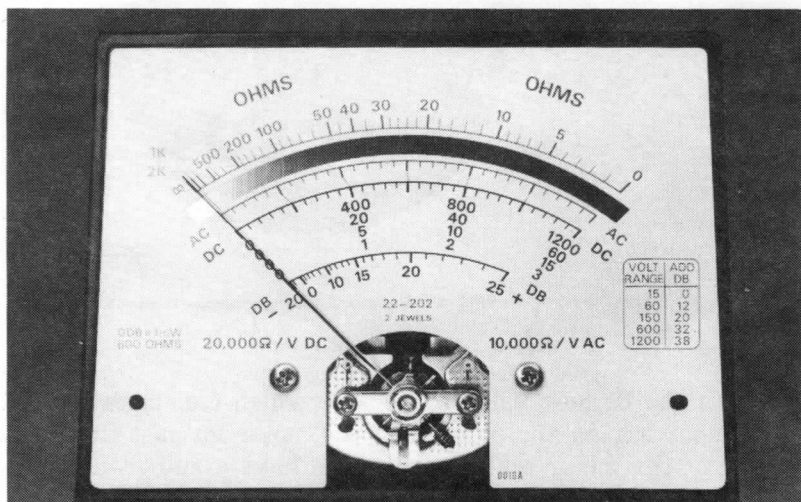

Figure 2-5. The scale of a typical VOM.
3. The third major part of the VOM is the meter. The meter part of the VOM consists of the meter scales with various ranges and a movable pointer. The scale of our typical meter is shown in Figure 2-5.